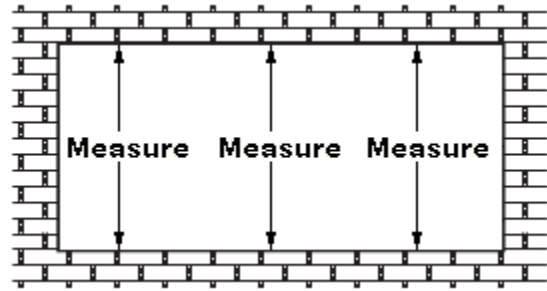

Figure 4
4. Measure the opening height at a minimum of three places as shown in figure 4. In longer runs these measurements should be performed every 48". Ensure that measurements are taken in plumb vertical planes. The smallest of these measurements is referred to as the R.O. (rough opening) height, or M.O. (masonry opening) height.